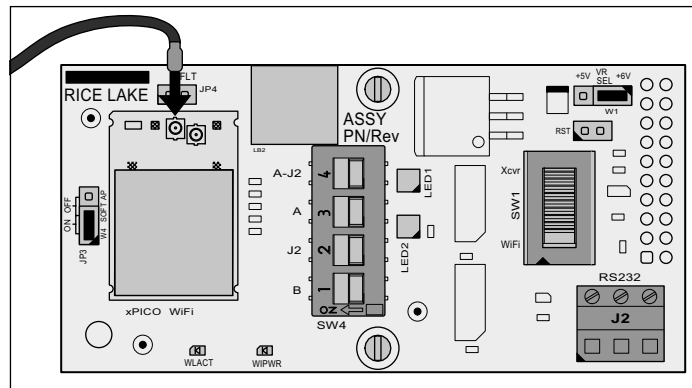

Figure 2. Antenna Connection Location
- Connect the u-FI end of the antenna cable to the Antenna 1 connection on the Wi-Fi module (Figure 2).